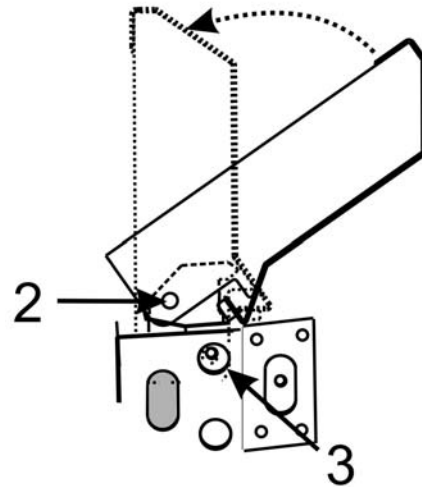

Figure 4: Low Backguard placement 2
- Rotate the Low Backguard to a vertical position, aligning hole 2 in the Low Backguard with hole 3 on both sides of the range (see Figure 4).